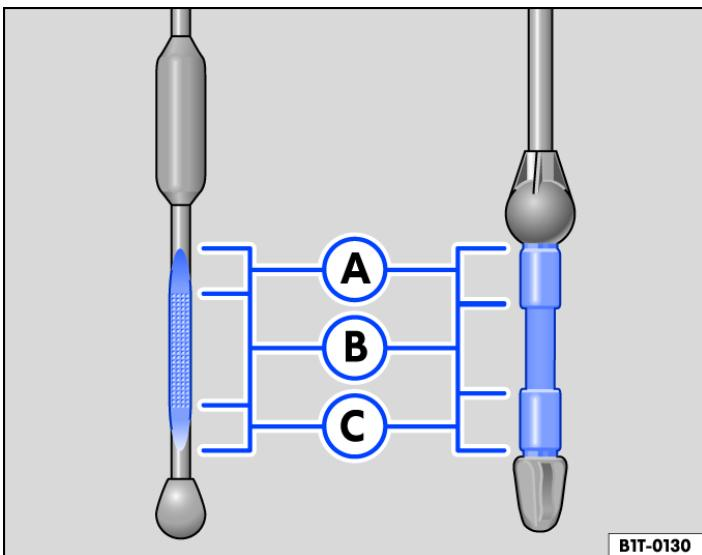
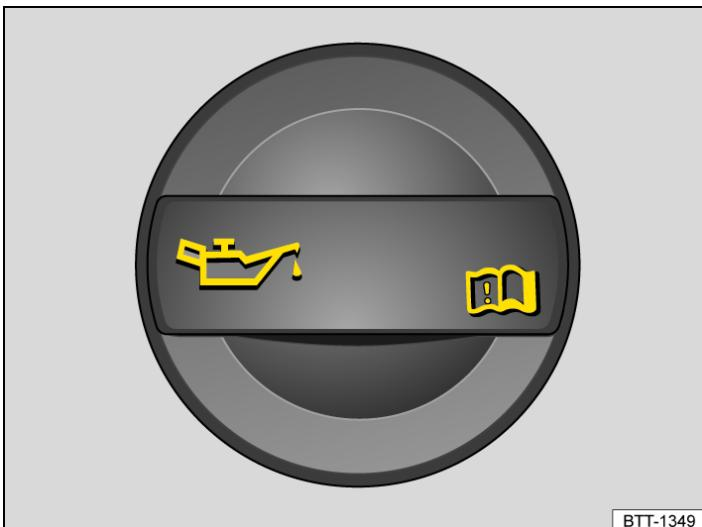

Fig. 1 Oil dipsticks with markings (variants).
Fig. 2 In the engine compartment: engine oil filler cap (illustration).
Key to Fig. 1:
4. Identify the engine oil filler cap and oil dipstick. The engine oil filler opening can be recognised by the symbol  on the cap and the oil dipstick has a coloured handle → Fig. 2. If you cannot find the cap and oil dipstick, please contact a qualified workshop.
7. Pull out the oil dipstick again and read the engine oil level on the dipstick as follows → *Fig. 1*:
- (A) Do not fill engine oil → ①. Continue with step 16.
- (B) Engine oil level OK. The engine oil may be filled up to the upper limit of this area, for instance, if the engine is subjected to high loads. Continue with step 8 or 16.
- (C) Engine oil level too low. It is essential to fill engine oil. Continue with step 8.
9. Unscrew the engine oil filler opening cap → *Fig. 2*.
12. Read the engine oil level from the dipstick again before refilling with a further small quantity of engine oil. Never overfill with engine oil → ①.